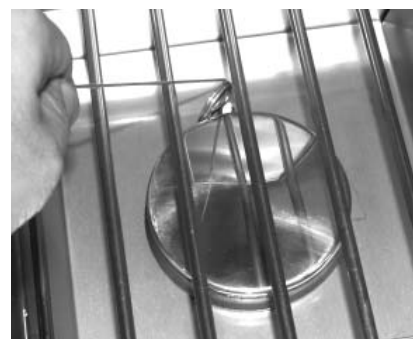

Fig. 21-2 - Manual lighting
**CAUTION:** Always wait five (5) minutes for gas to clear after any unsuccessful lighting attempt.
2. Insert either a burning long-barrel butane lighter, a burning long-stem match, or a burning match held by a wire extension holder through the cooking grid opening to the burner (Fig. 21-2). Hold the flame against the edge of the burner.
4. If the burner does not light, **immediately depress the knob and turn the valve to OFF. WAIT FIVE (5) MINUTES** before repeating steps 2 through 4 of the **MANUAL LIGHTING** instructions.